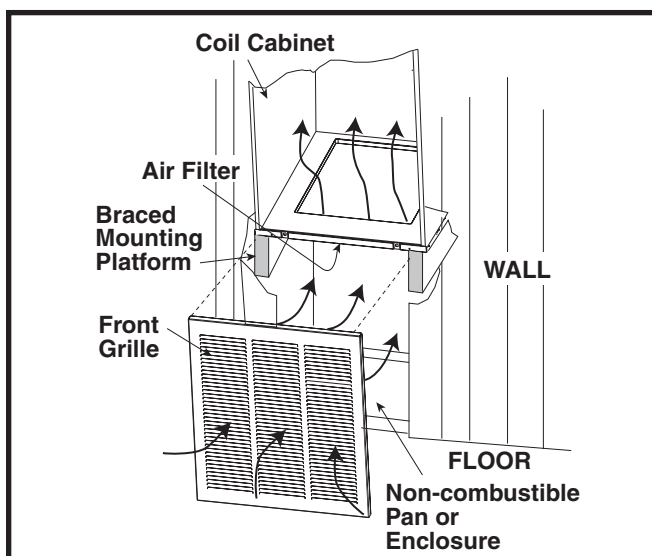

Figure 14. Over-the-Floor Return Air System
7. Install return air grille in closet preferably at same level as upflow stand or below mounting platform. See Figure 14.